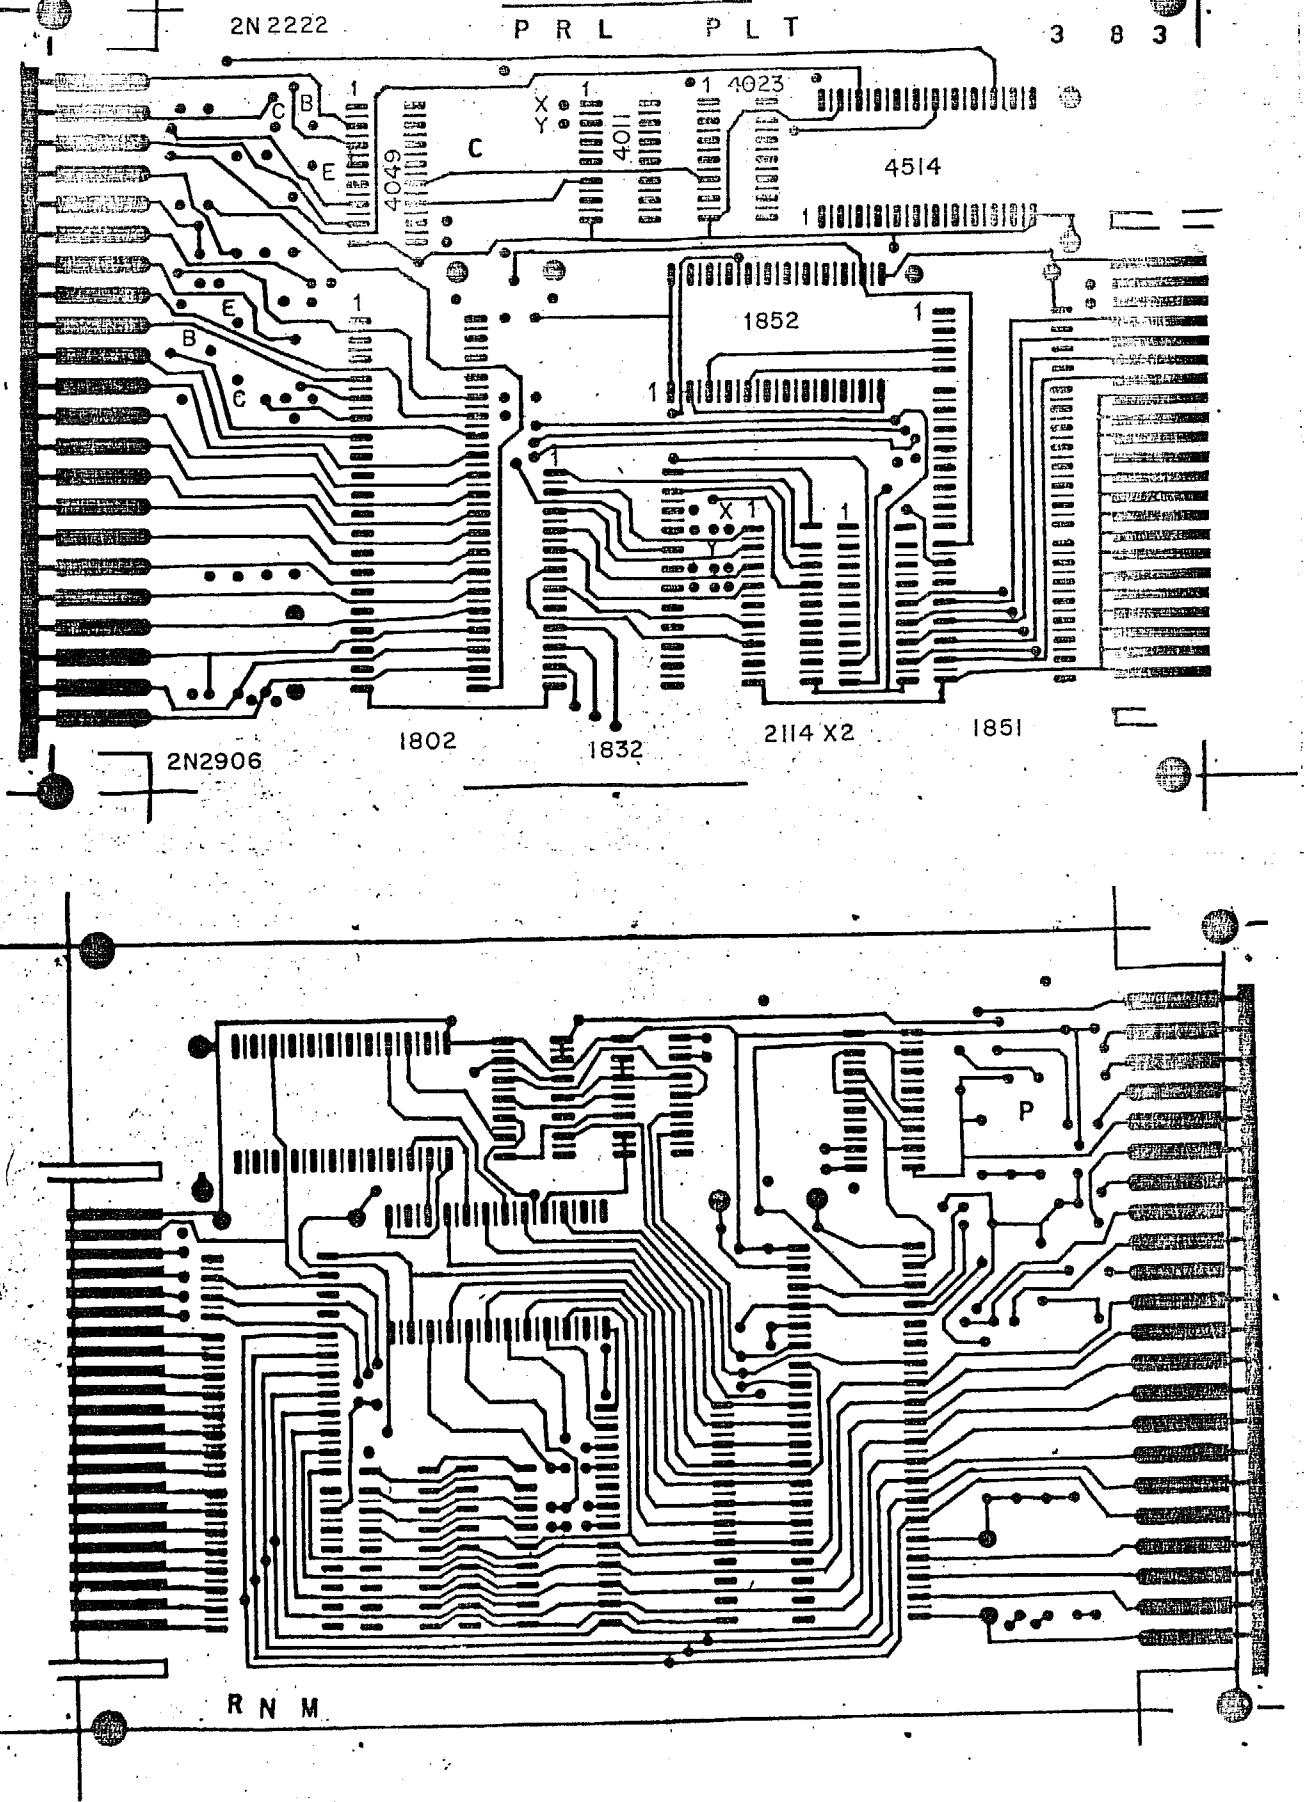

FIG.4. PRINTED CIRCUIT BOARD LAYOUT & PLACEMENT OF PARTS.
- Fig.4 : Printed Circuit Board Layout &